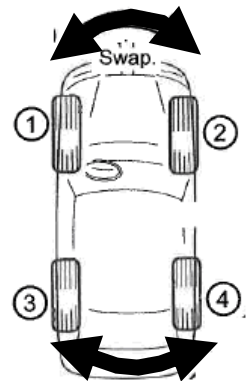

Figure 2
- B. Rotate tires 1 and 3 on the driver side (see Figure 2) and road test.